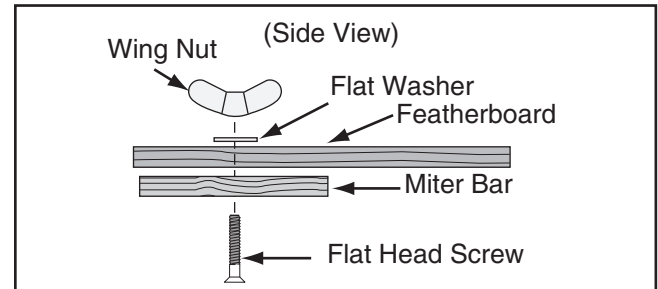

Figure 128. Assembling miter slot featherboard components.
- Assemble miter bar and featherboard with $\frac{1}{4}$ "-20 x flat head screw, flat washer, and a wing nut or a star knob (see **Figure 128**). Congratulations! Featherboard is complete.